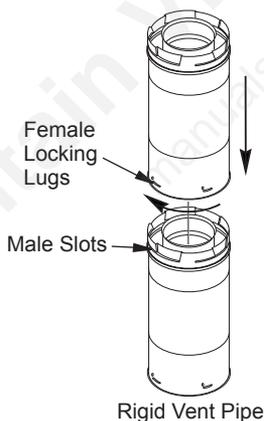

Figure 17 - Vent Pipe Connections
Twist-lock Procedure: Female ends of pipes and fittings have four locking lugs (indentations). These lugs will slide straight into matching slots on male ends of adjacent pipes and fittings. Push pipe sections together and twist one section clockwise approximately one-quarter turn until sections are fully locked. See Figure 17. *Note: Horizontal runs of vent must be supported every three feet. Use wall straps for this purpose.*
- Assemble desired lengths of pipe and elbows necessary to reach from fireplace flue up through firestop. Be sure all pipe and elbow connections are fully twist-locked (see Figure 17, page 13).